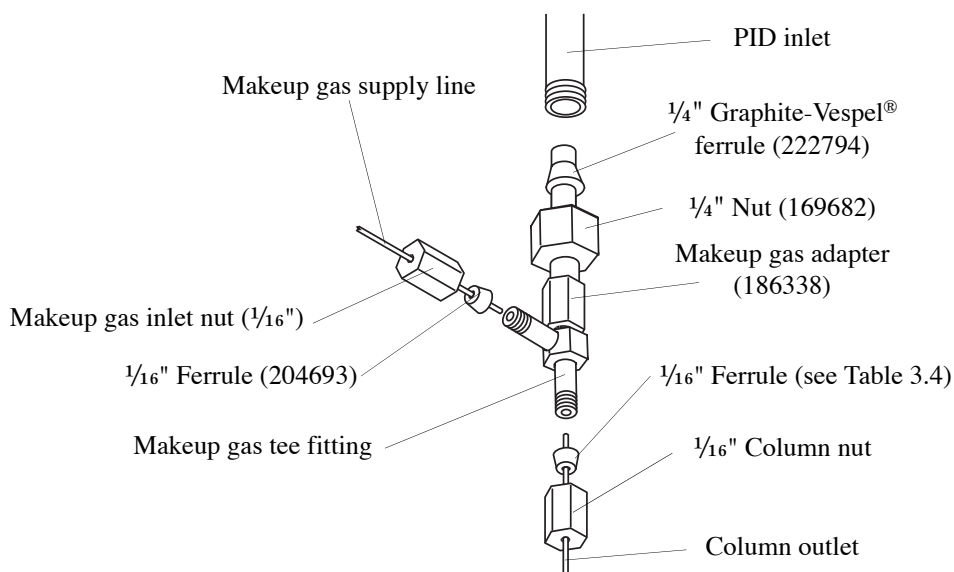

Figure 3.22. PID makeup gas adapter
1. Remove the PID makeup gas adapter (PN 186338) from its packaging and the 1/4" nut (PN 169682) and 1/4" ferrule (PN 222794) from the PID kit (Figure 3.22).
2. Slide the nut and then the ferrule over the 1/4" end of the makeup gas adapter. See Figure 3.22 for the orientation of the ferrule.
4. Slide the makeup gas adapter into the PID inlet as far as it can go (Figure 3.22).